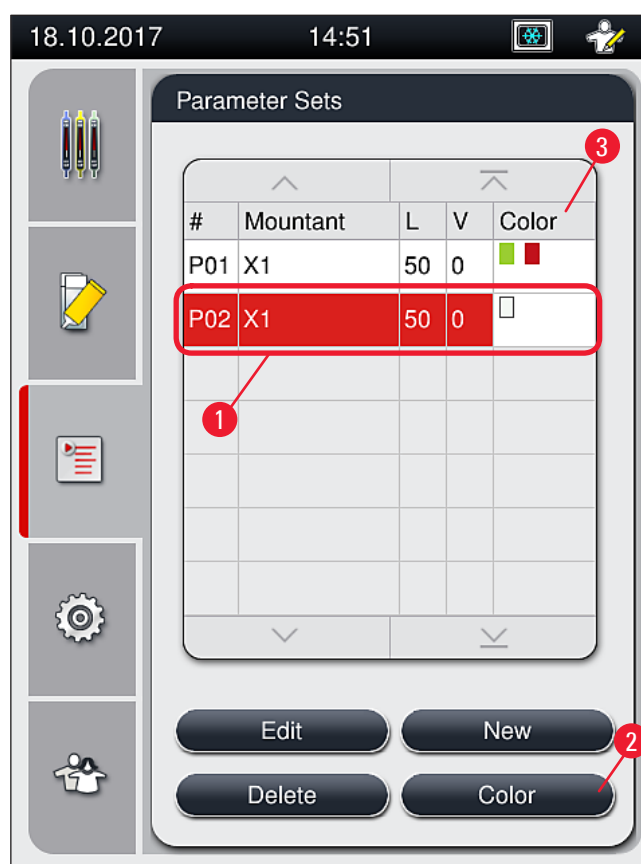

Fig. 44
1. In the parameter set menu (→ Fig. 44), tap on the corresponding entry to select the parameter set to which a rack handle color is to be assigned (→ Fig. 44-1).